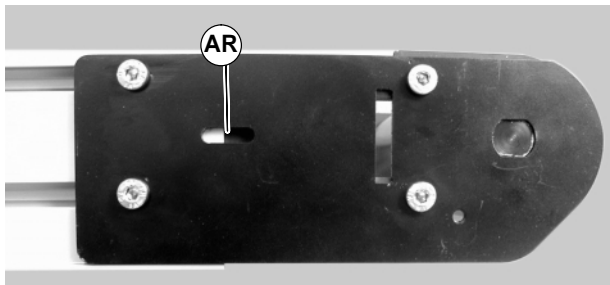

Figure 28
3. Extend head plate assembly until proper tension in the belt is achieved. If proper tensioning can not be obtained before the belt life indicator is all black (AR of Figure 28) the belt must be replaced.